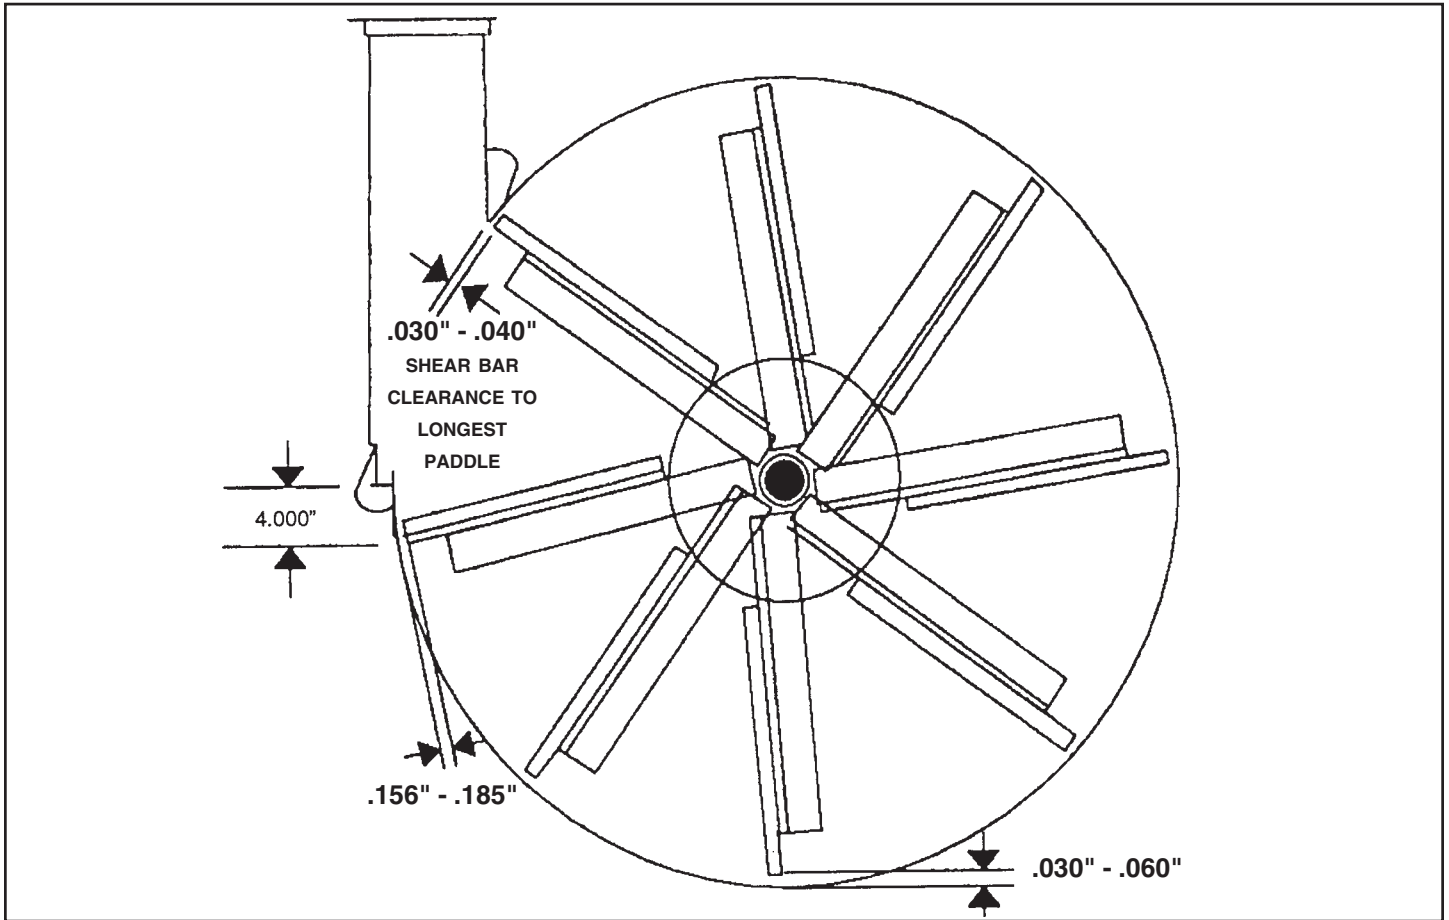

Figure 20. Adjustment Check Points
Refer to Figure 20.
2. Clean inside of fan housing, shown in Figure 20, and paddle tips.